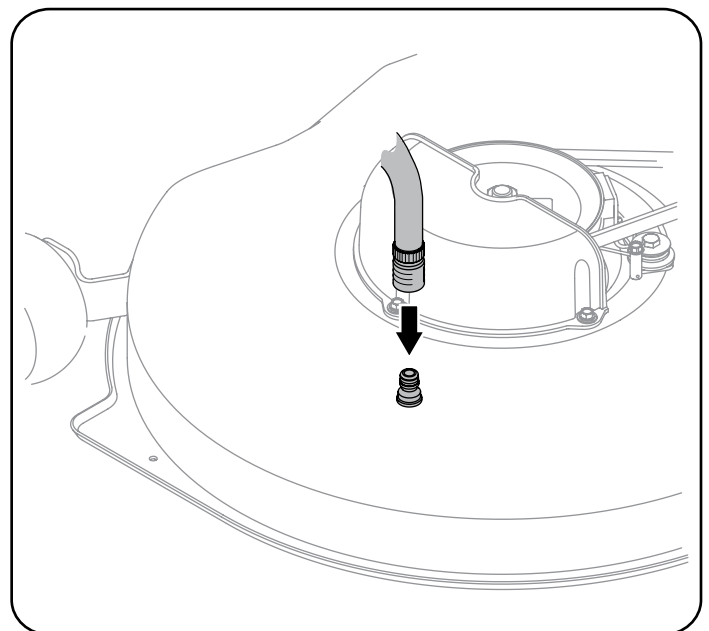

Figure 19
4. Attach the hose coupler to the water port on the deck's surface. See Figure 19.